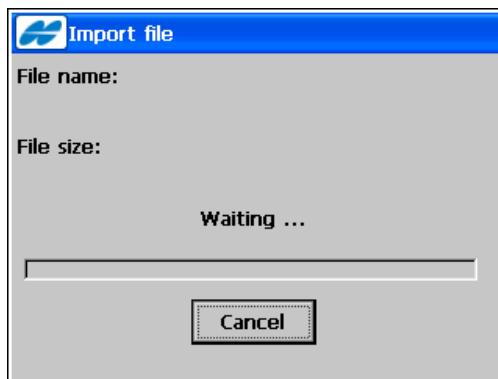

Figure 5-12. Import File
- **OK** – opens the *Import File* screen reflecting import status to the selected directory (Figure 5-12)